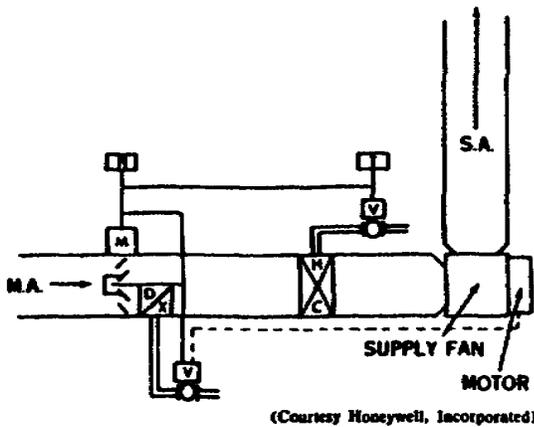

Figure 10. Dehumidification control in a D/X face and bypass system.
20. *Control of dehumidification with a face and bypass damper.* We discussed the use of face and bypass dampers when we discussed DX coils. Now we will apply this damper system to humidity control, as shown in figure 10. A space humidity controller is used to open the D/X coil valve when a predetermined minimum dehumidification load is reached. It also modulates the face and bypass damper to provide the mixture of dehumidified and bypass air necessary to maintain space relative humidity.
23. The space thermostat acts in a way that is similar to that of the thermostat in figure 10. The control circuit to the D/X coil valve is connected to the supply fan so that the valve will close when the fan is shut off. This arrangement helps prevent coil frosting and reheat coil freezeup.